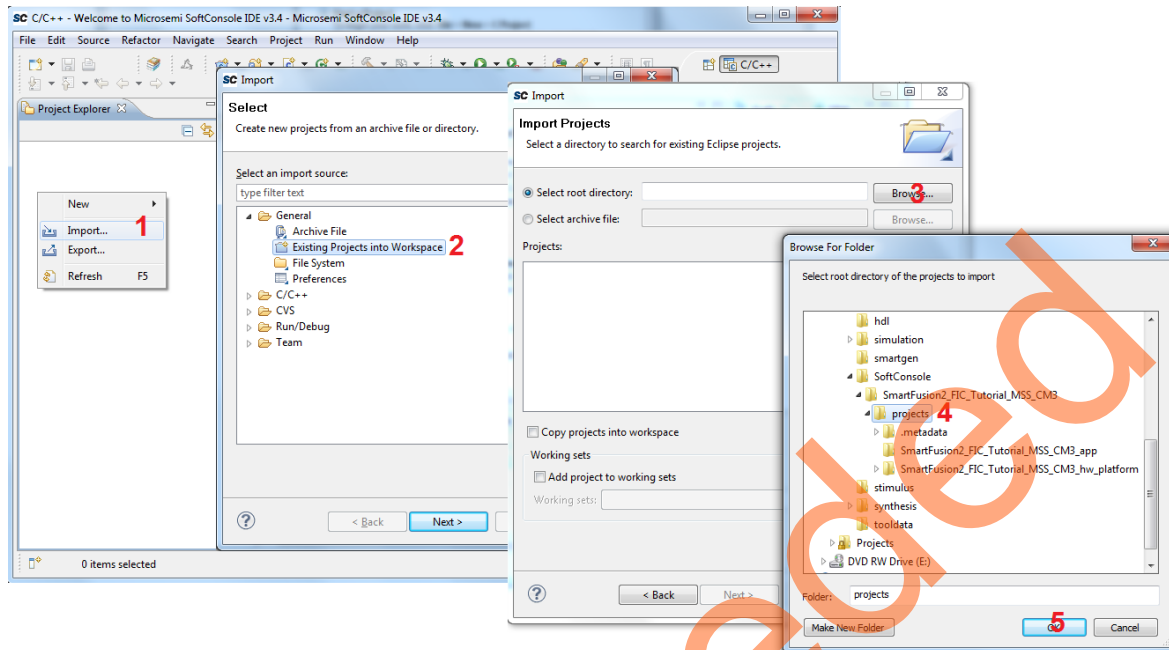

Figure 46 • Importing the Existing Project into Workspace
9. Import the existing project into workspace as shown in Figure 46.
- Navigate to the **SoftConsole** folder and select **projects** folder as shown in Figure 46.